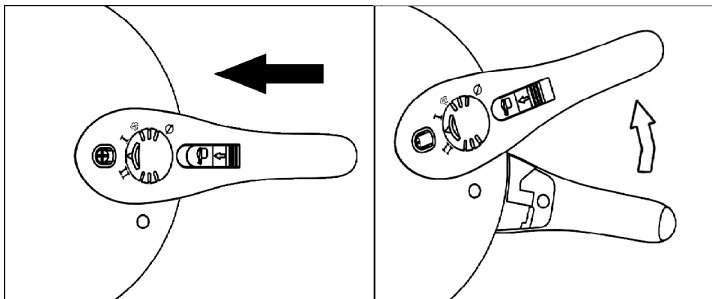

Fig.9
1.Natural cold. When heating time is up, turn off the fire and leave it for a while waiting for the pressure reduced. Take off the lid when the safely open-preventing valve fell down. The opening procedure is contrary to the closing. Push the opening button back and make it on estate of opening when you open the lid. Contrarotate upper handle to align the mark "O" on the lid to and the mark "O" on the lower handle to open the lid. (Fig.9)